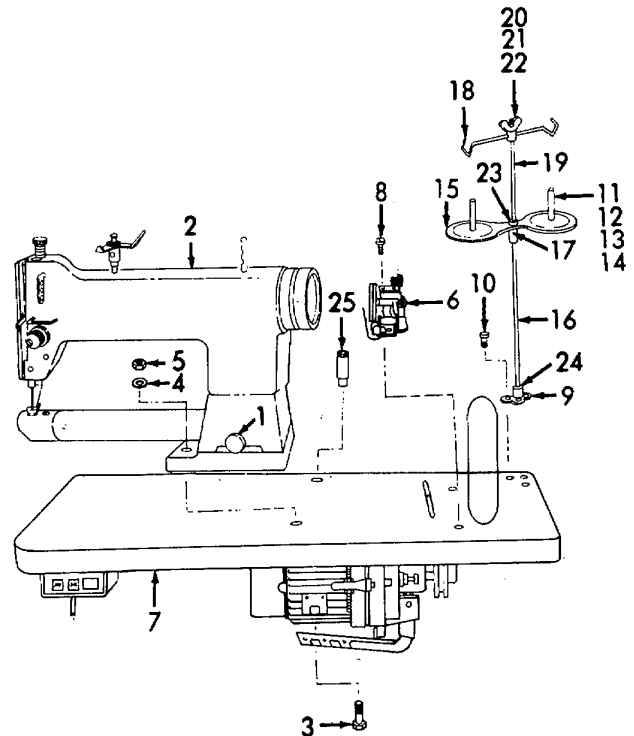

Figure 2-12. Darning Sewing Machine Table, Installation.
- (15) Refer to Figure 2-12. Turn thumbscrew (1) and open base.
- (16) Remove hardware from base.
- (17) Place darning sewing machine (2) into position and secure with three bolts (3), three washers (4), and three nuts (5).
- (18) Unstrap light assembly from motor and secure to table top. Be sure the felt on the clamp is on the table top and the thumbscrew is on the bottom.